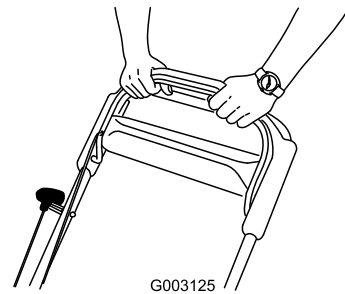

Figure 18
3. Hold the blade control bar against the handle (Figure 18).